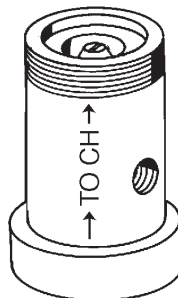

Figure 2-24. Time Delay
- ▶ The time delay is field mounted between the PYRO-CHEM control head (Models MCH3, NMCH3, ECH3-24, or ECH3-120) and the discharge valve assembly of the agent cylinder(s) and/or pneumatic actuating cylinder(s). See **Figure 2-24**.